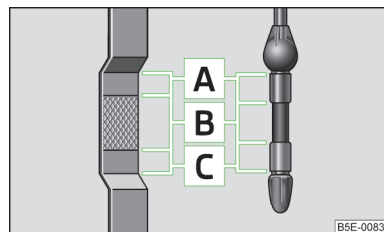

Fig. 184
- If the oil level is above level **A** » Fig. 184 on page 220, do not continue to drive! Switch off the engine and seek assistance from a specialist garage.
The dipstick indicates the engine oil level » Fig. 184.
The oil level must not exceed level **A** » Fig. 184 - risk of damaging the exhaust system!